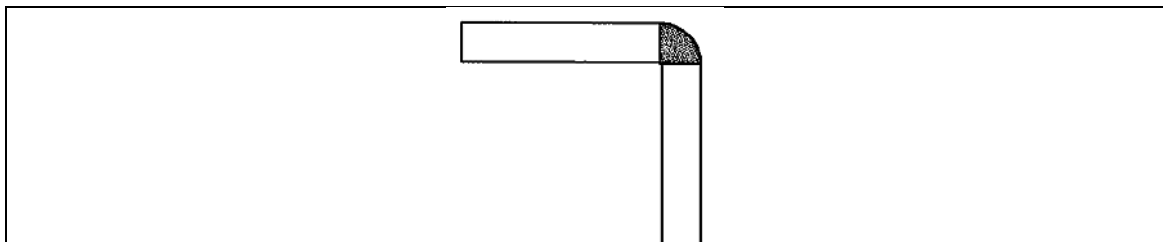

FIGURE 1.9
1.9 Identify the type of welding joint shown in FIGURE 1.9.